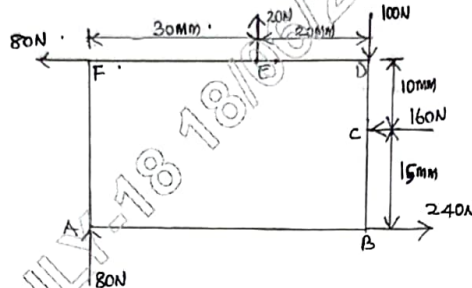

Fig. Q6 (b)
b. Find the resultant for given force system and comment on your result. Refer Fig. Q6 (b). (12 Marks)